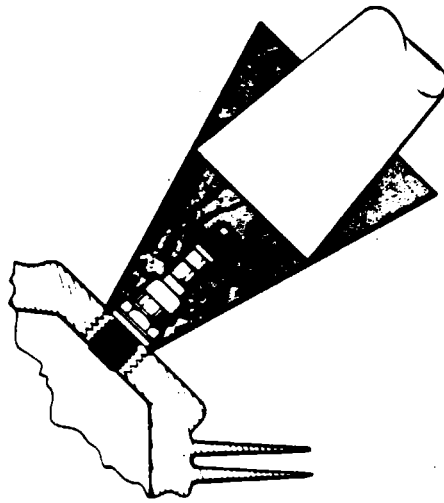

Figure 74-32. Removing Spark Plug Frozen to Bushing
4. Removal of seized spark plugs in the cylinder may be accomplished by application of liquid carbon dioxide by a conical metal funnel adapter with a hole in the apex just large enough to accommodate the funnel of a CO₂ bottle. (Refer to Figure 74-32.) When a seized spark plug cannot be removed by normal means, the funnel adapter is placed over and around the spark plug. Place the funnel of the CO₂ bottle inside the funnel adapter and release the carbon dioxide to chill and contract the spark plug. Break the spark plug loose with a wrench. A warm cylinder head at the time the carbon dioxide is applied will aid in the removal of an excessively seized plug.